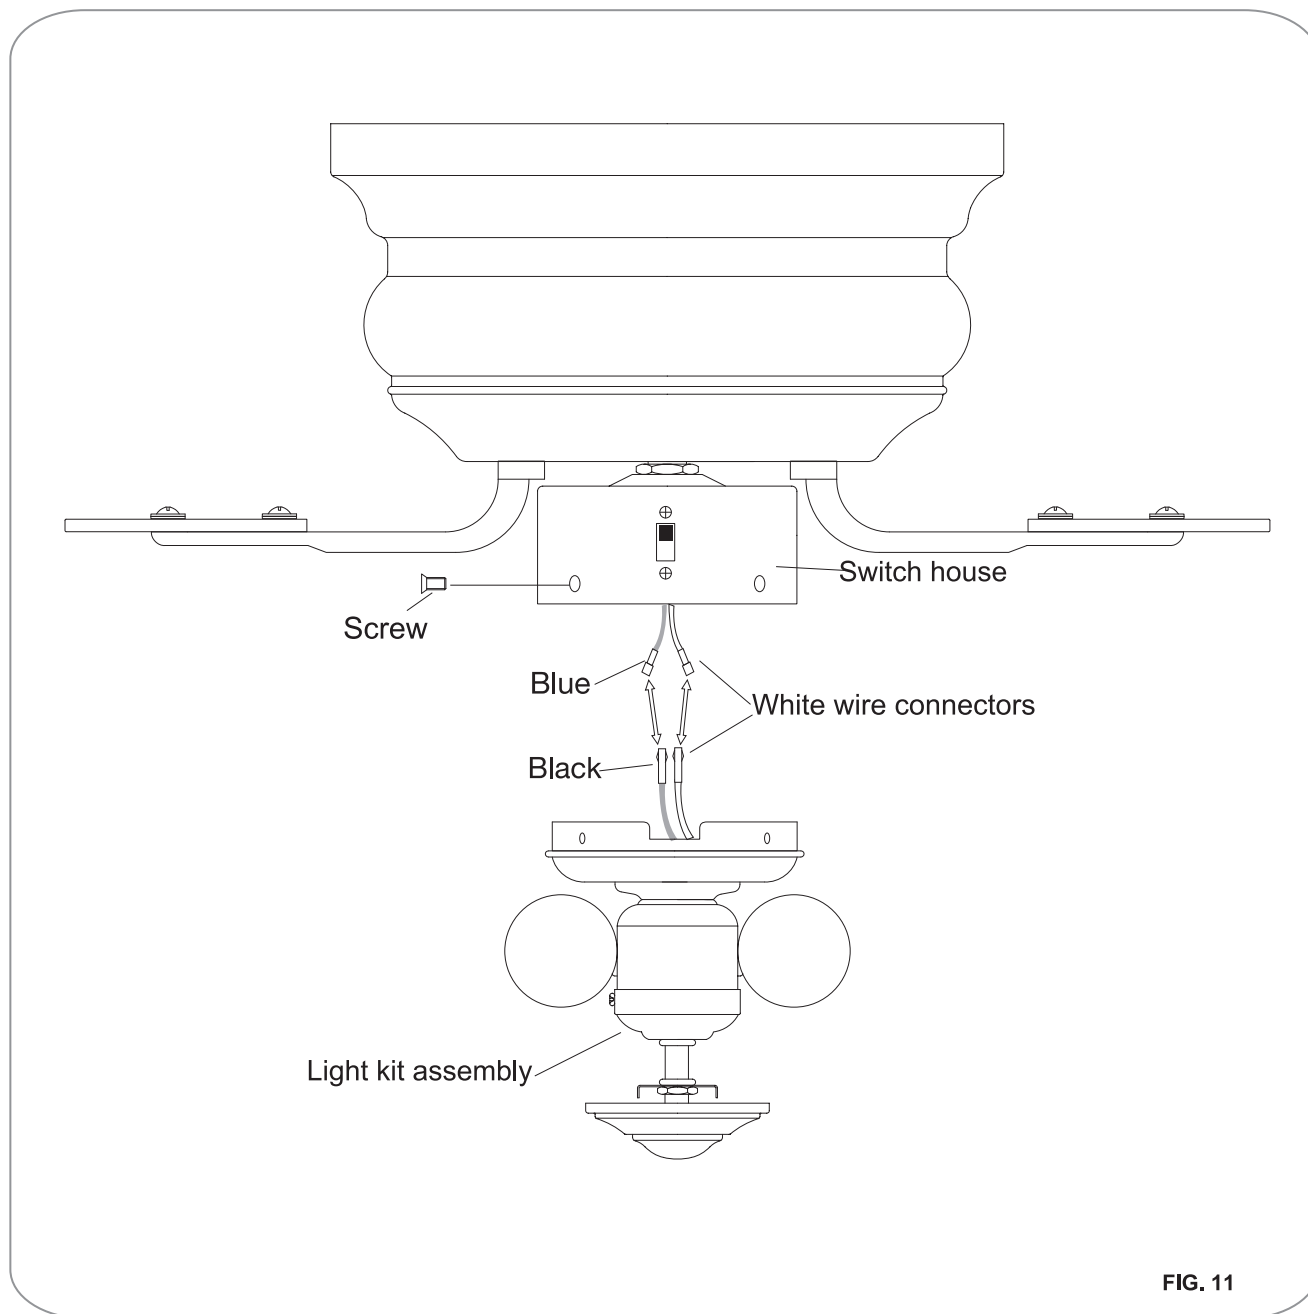

FIG. 11
Step 1. Remove the three screws from the light kit assembly. While holding the light kit assembly under your fan. Connect white wire from motor to white wire from light kit assembly. Connect blue wire from motor to black wire from light kit assembly. (Fig.11)